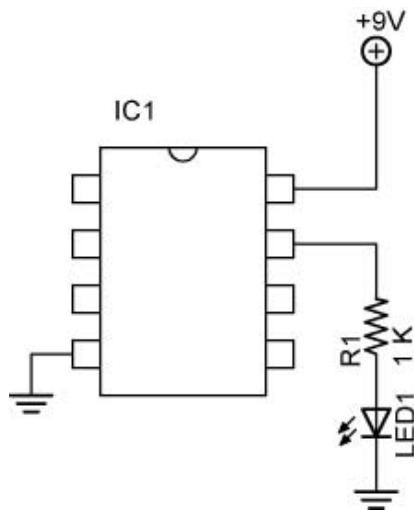
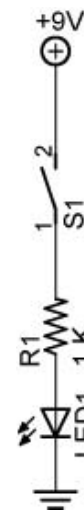

Figure 3 - Chip Acting as a Source
Figure 4 - Chip Acts Similar to Switch S1
- **Chip as a Source:** In Figure 3 below, when the pin connected to R1 goes HIGH, the chip connects the source voltage (+9V) to the load (the LED), similar to the switch in Figure 4.